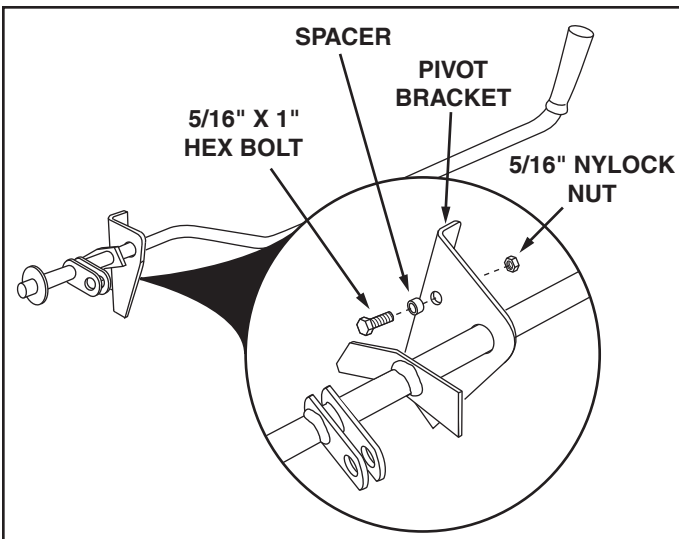

FIGURE 1
1. Assemble a 5/16" x 1" hex bolt, a spacer and a 5/16" nylock nut to the hole in the R.H. pivot bracket. See figure 1.